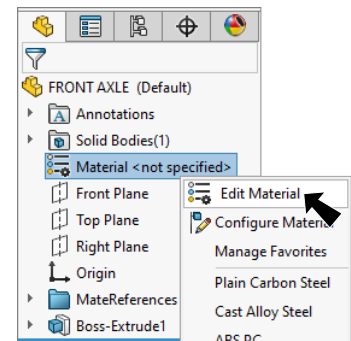

Fig. 9
Step 1. **Right click** **Material**  in the Feature Manager and click **Edit Material**, **Fig. 9**.